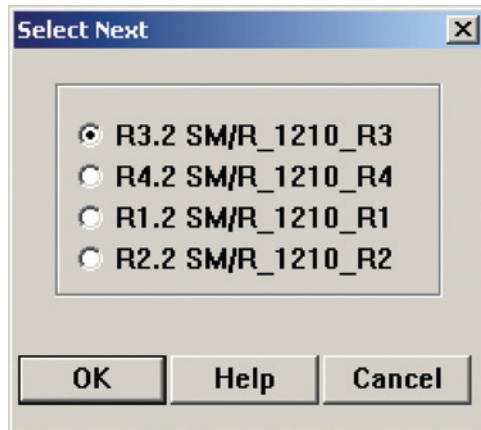

Figure 9-35 Selecting parts from the placement matrix.
**To select a particular part from the queue**, display the **Select Next** dialog box (Fig. 9-35) by selecting **Tools → Component → Place**, or right click and select **Place** from the pop-up. Select the component of interest and click **OK**.